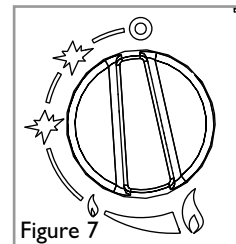

Figure 7
• **Corinthia models** : The control knob is located in the centre of the appliance and is normally accessed by swinging the glass panel upwards from the bottom. The glass panel is not fitted until section 8.3. The control knob is marked as shown in figure 7.